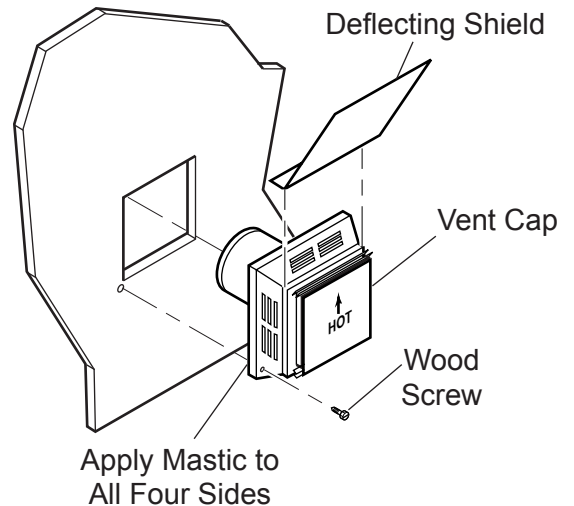

Figure 21 - Installing Horizontal Vent Cap
4. Apply a bead of non-hardening mastic around the outside edge of vent cap. Position the vent cap in the center of hole on the exterior wall with the word "UP" on the vent cap facing up. Insure proper clearance of 1" to combustibles is maintained. Attach the vent cap with four wood screws supplied. See Figure 21.